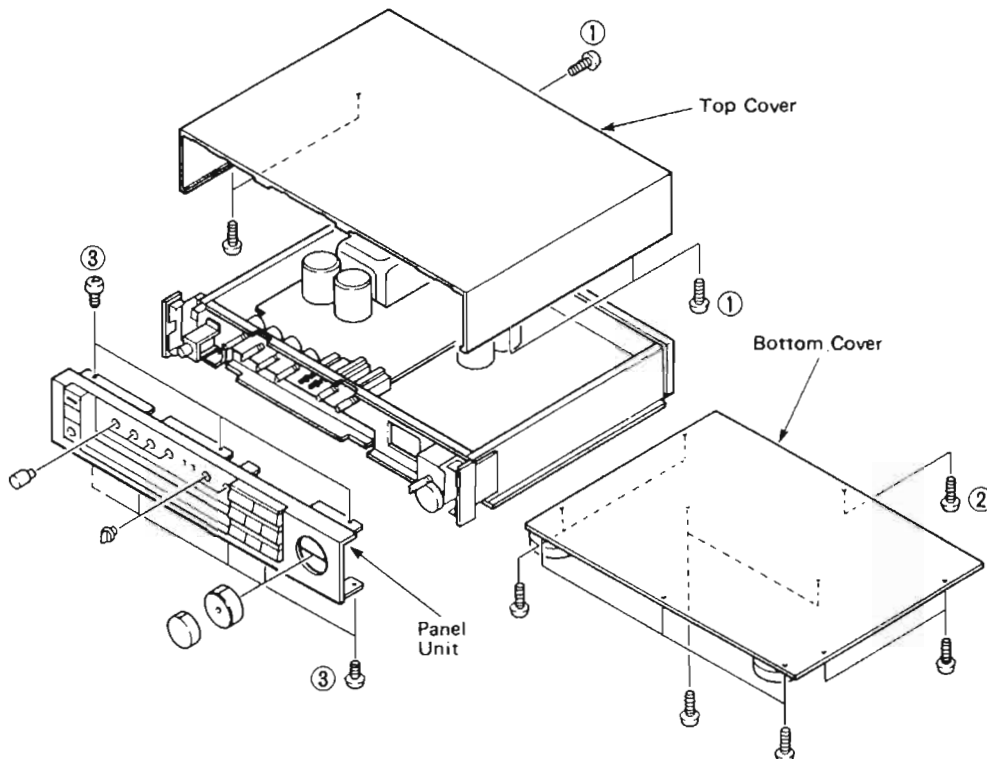

Fig. 1
- a. Remove 5 screws (①) in Fig. 1.
- a. Remove 8 screws (②) in Fig. 1.
- b. Remove 8 screws (③) in Fig. 1.